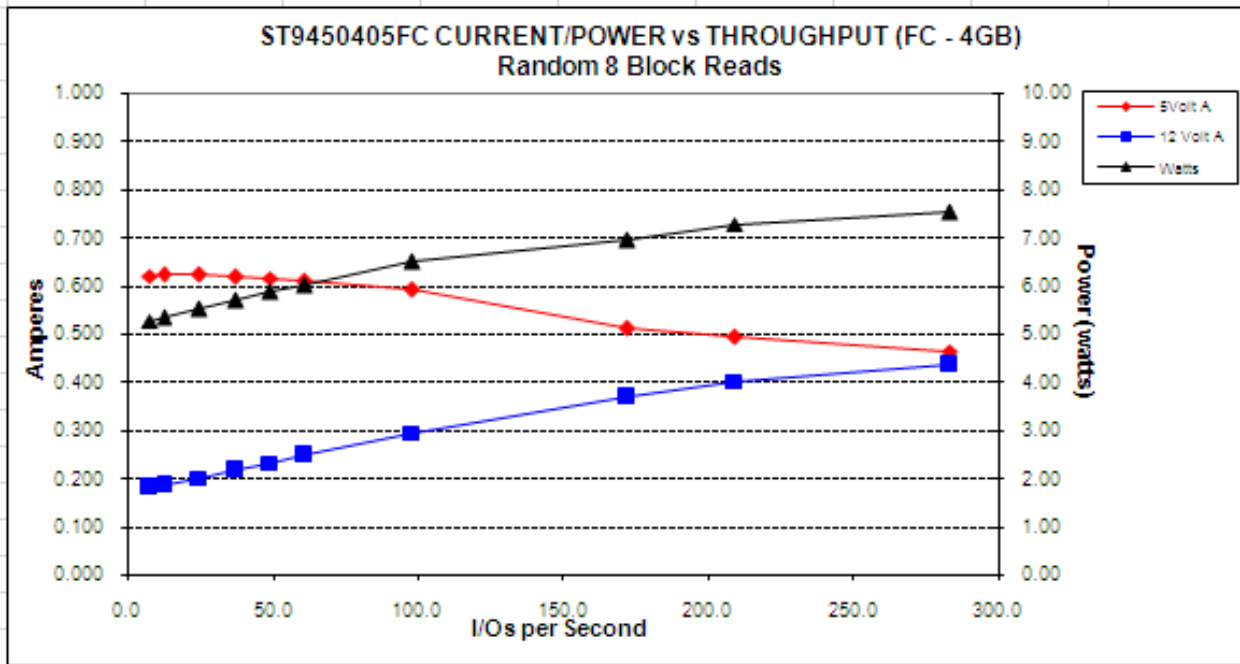

Figure 6. ST9450405FC DC current and power vs. input/output operations per second
- [4] See +12V current profile in Figure 6.